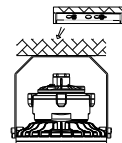

Figure 4
4. finally tighten the nut of the screws (Figure 4).